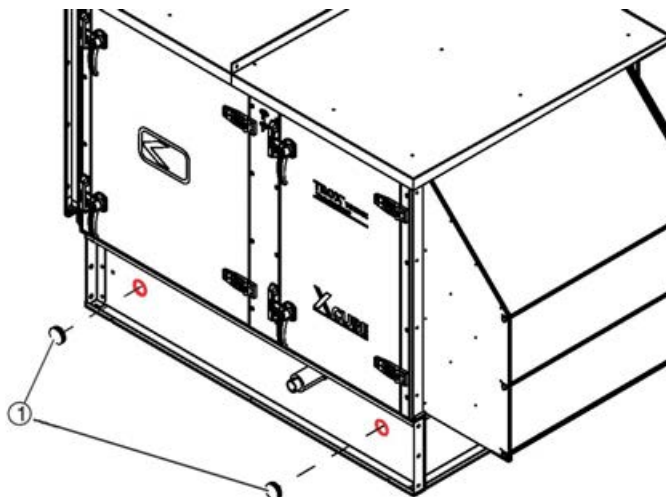

Fig. 26: Fitting plugs
- ▶ Seal the transport openings in the base frame of the air handling unit with the plugs (Fig. 26 /1) provided.